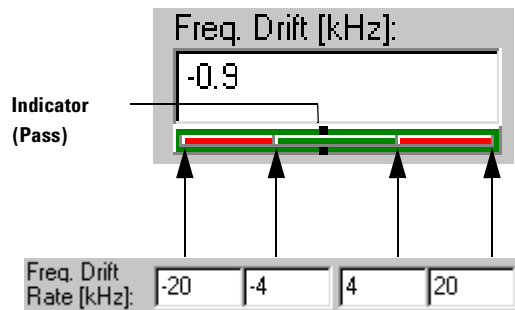
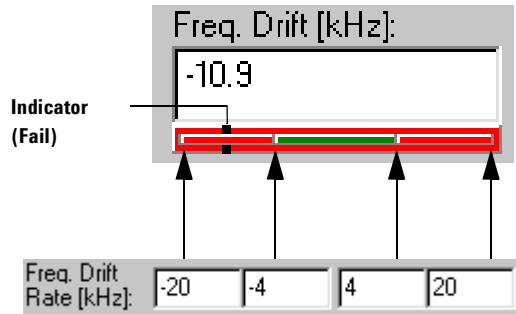

Figure 58 Frequency Drift Limits and Display Bar (Pass)
Figure 59 Frequency Drift Limits and Display Bar (Fail)
Four limits are required for each parameter. **Min**, **Min OK**, **Max OK**, and **Max** are used to scale the red/green bars for each of the associated parameters on the **Measurements** windows. (see Figure 58 on Page 103)
- The background area is red when the result is outside the 'OK' limits and changes to green when within the 'OK' limits. (see Figure 58 and Figure 59 on Page 104)